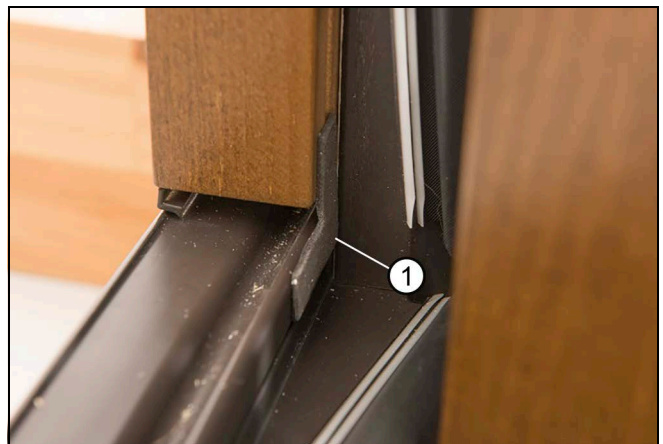

Figure 78
7. Apply the corner gasket between the sill and wood part stop. Reapply the weather strip at the side jamb and sill. See Figure 78.